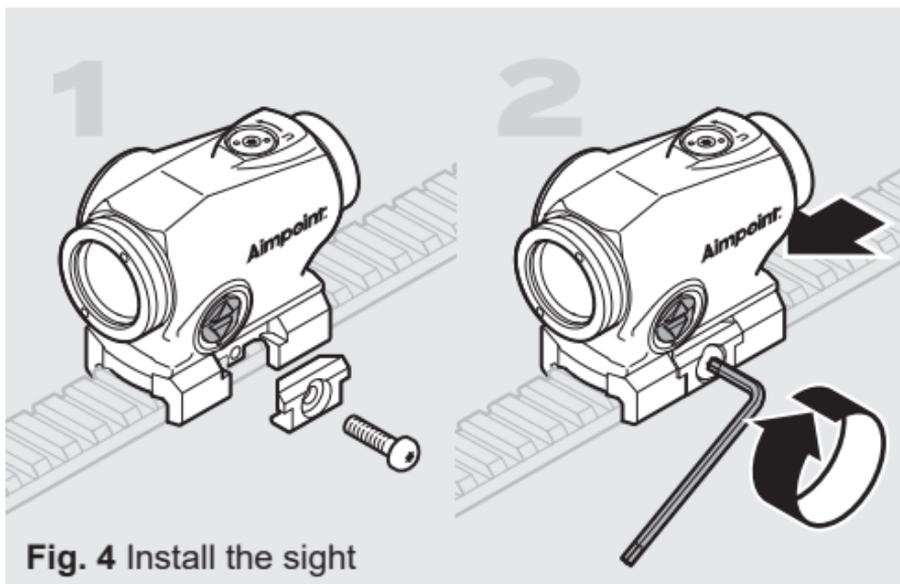

Fig. 4 Install the sight
- b Use the Torx T10 tool (3) to turn the adjustment screws.
- c Windage adjustments (see Fig. 4):
- Turn windage adjustment screw (6) counterclockwise to move point of impact to the right (R).
- Turn windage screw (6) clockwise to move point of impact to the left.